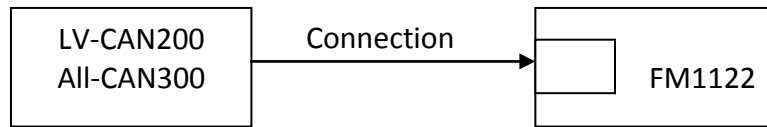

Figure 52 Connect adapter LV-CAN100 to FM1122
**SCAN function** – is in use when FM1122 is connected to CAN adapter (Figure 52), then wait 10s (Note, that car engine must be started), disconnect adapter from FM1122, and connect PC USB cable to FM1122 Device (Figure 52). It is very important not to disconnect FM1122 from power source during this operation, because if FM1122 is reconnected all received CAN bus data will be lost. FM1122 remembers received data from LV-CAN200 or ALL-CAN300 and at the end of the procedure when “SCAN” button is pressed, user will see all CAN data which is sent by adapter. Enable CAN data which needs send to server and save configuration pressing “Save” button.
1. In car, connect LV-CAN200 or ALL-CAN300 to CAN bus and to the FM1122 device (Figure 52), wait 10 seconds. Note, that car engine must be started.